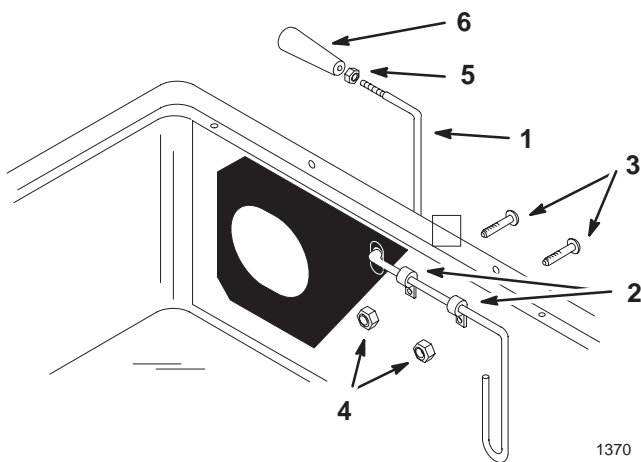

Figure 13
1. Slide the threaded end of the indicator rod through 2 clips, the rubber seal, and the slot in the cover (Fig. 13).
2. Secure the clips to the cover with 2 pan head screws (1/4 x 5/8 inch) and 2 locknuts (1/4 inch) (Fig. 13).
4. Rotate the handle so that the decal can be read from the operators position, then tighten the jam nut (Fig. 13).